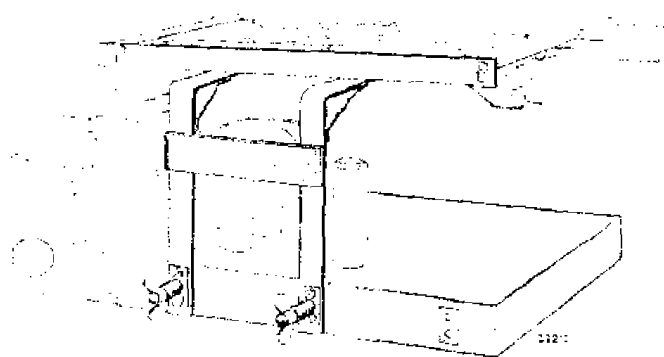

Fig. 7.
9. Trim C23, C22, C23, in that order for maximum output (see Fig. 7).
After each adjustment tune to 208 metres, and if necessary, correct the pointer. A special bracket for holding the scale is recommended for use during this operation (see Fig. 7).